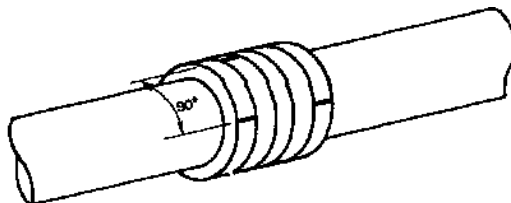

Fig. 21 – Ring position with ends 90° from each other.
- Proceed to the assembly in the inverse sequence of the disassembly, introducing each part into the stuffing box chamber with the help of the gland cover. The packing rings should be mounted with their end 90° from each other (See Fig. 21).